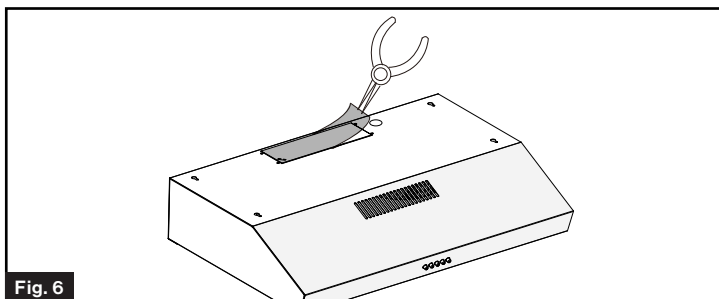

Fig. 6
2. Tear the seal with pliers by pulling outward. (Fig. 6)